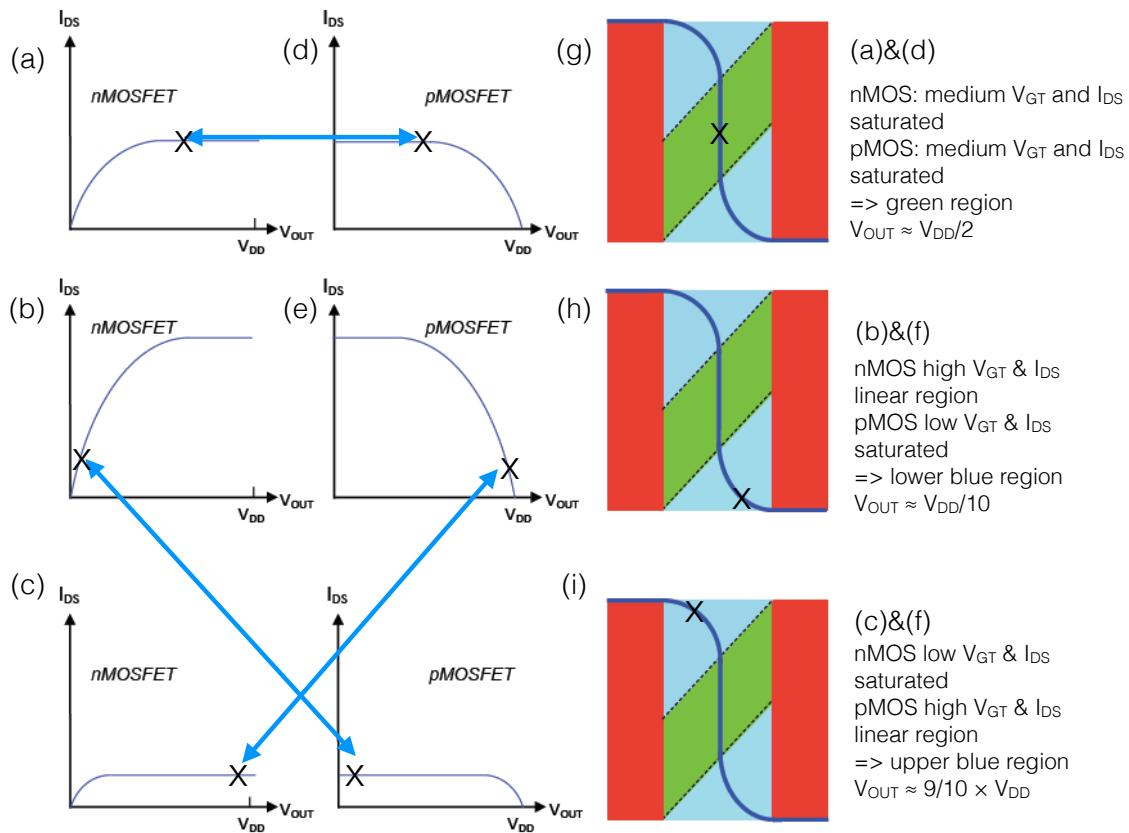

Figure 12.5: Solution to problem 5.1
The solution is shown in Figure 12.5.
- To find the output voltage one has to consider the voltage at which the two current curves that correspond to the same input voltage cross. Thus, we find that for V_{IN1} the bias point is in region B, for V_{IN2} in region C, and for V_{IN3} in region D. See also Figure 12.5 where graph (i) corresponds to V_{IN1} , (g) to V_{IN2} , and (h) to V_{IN3} .